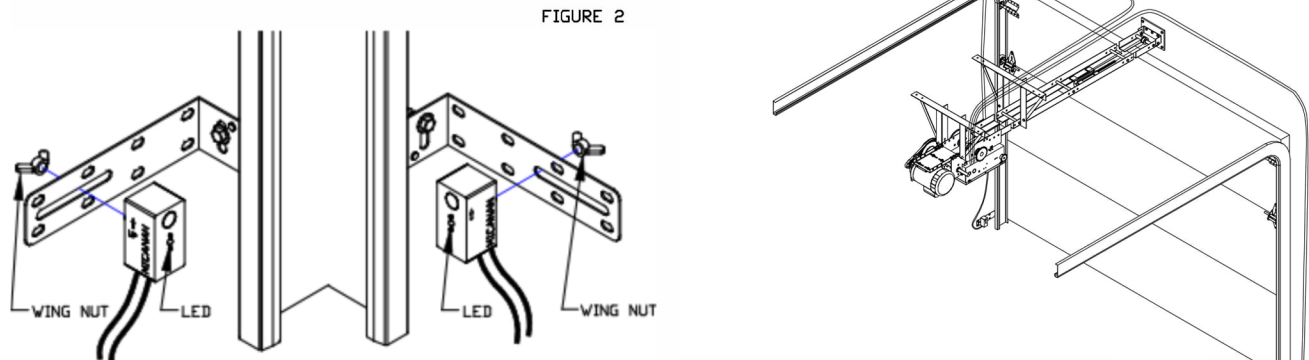
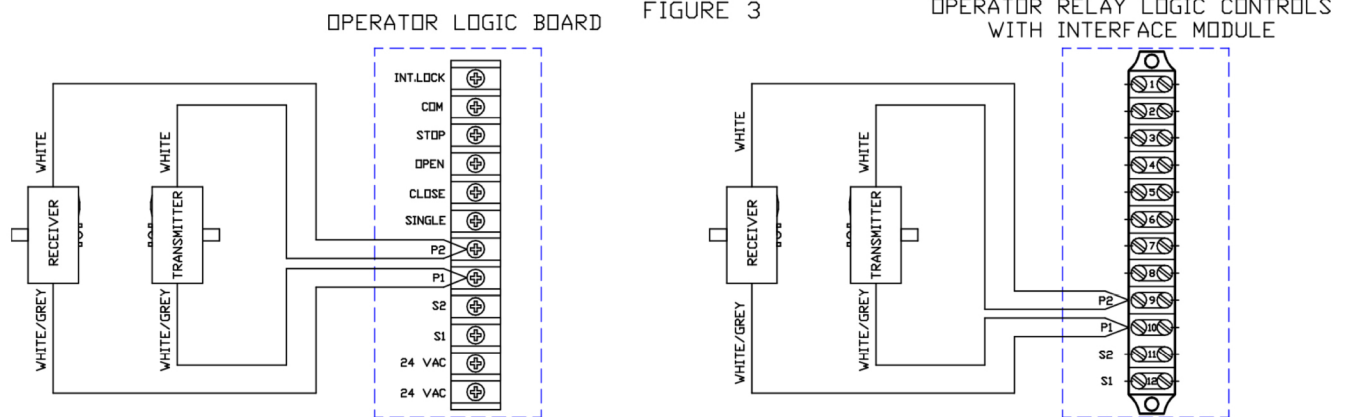

FIGURE 2
FIGURE 3
- 4- Adjust the position of the transmitter and receiver on the slot of the brackets. Secure the receiver and transmitter to the mounting brackets as shown in figure 2.
- 6- Connect these paired wires to the P1 and P2 terminals on the logic board (or interface module if applicable) as shown in Figure 3.
3. Plug sensors into flexible adapters as shown in Fig. 2. Please note that the 2 brackets are not identical. The receiver (Rx) must be installed into the receiver adapter and the transmitter (Tx) must be installed into the transmitter adapter (Fig. 3).